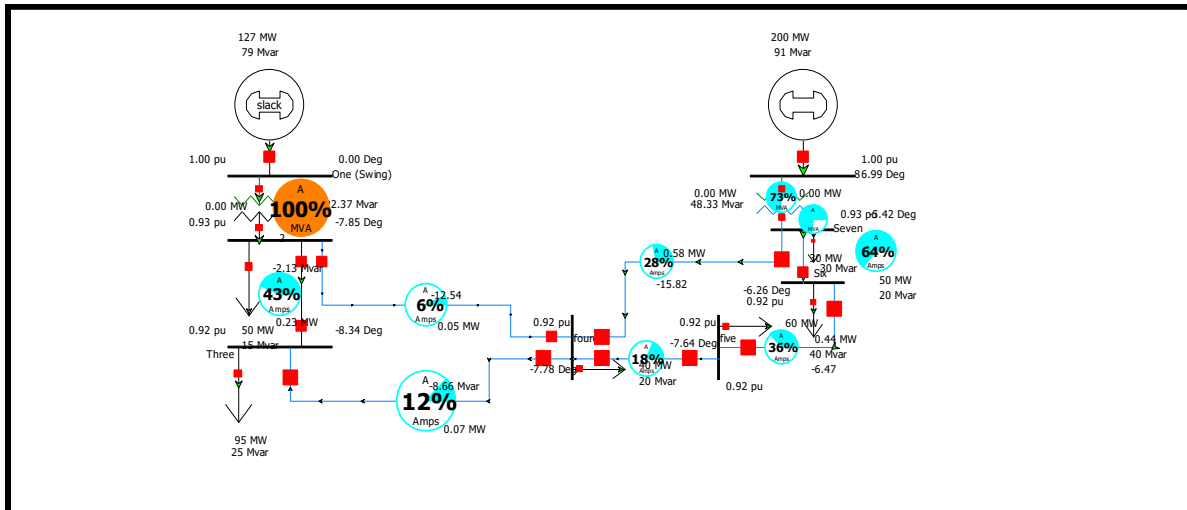

Figure 9: The New Power flow direction, Per Unit Voltage, and Angle and power losses
The Value of the real Power (MW) was increased in the Bus 3 and the transformer 1 become full loaded, the Value of new MW is 95 MW. The new Power Flow direction show in the Figure 9: